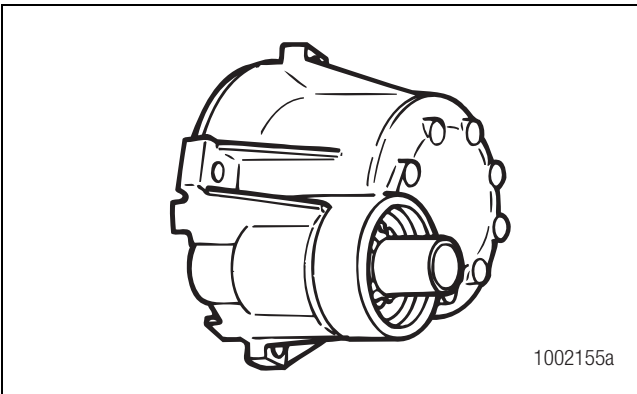

Figure 1.18
**Regeneration Valve:** The valve that controls regeneration of the desiccant. It allows air from the supply and secondary tanks to bypass the outlet check valve. The air expands and backflushes moisture off of the desiccant, then out through the dryer's purge valve. Figure 1.18.